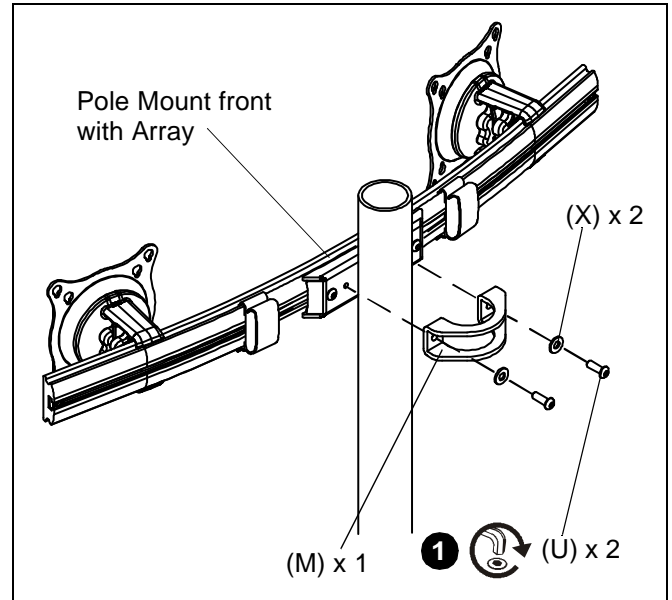

Figure 6
1. Assemble pole clamp back (M) to pole mount front using two washers (X) and two 1/4-20 x 3/4" button head cap screws (U) using a 5/32" hex key (J). (See Figure 6)
2. Secure pole mount back (M) to pole mount front and pole by tightening two button head cap screws (U) using a 5/32" hex key (J).
4. Add pipe cap (Y) to top of pole (F or G).